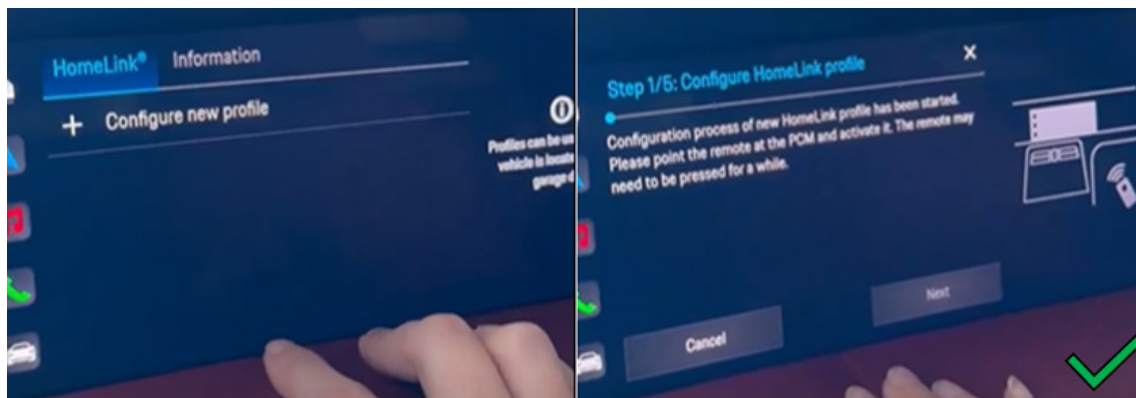

Figure 1 - Correct Programming Procedure
1. Verify the customer's concern of the incorrect programming procedure (refer to figures 1 & 2).